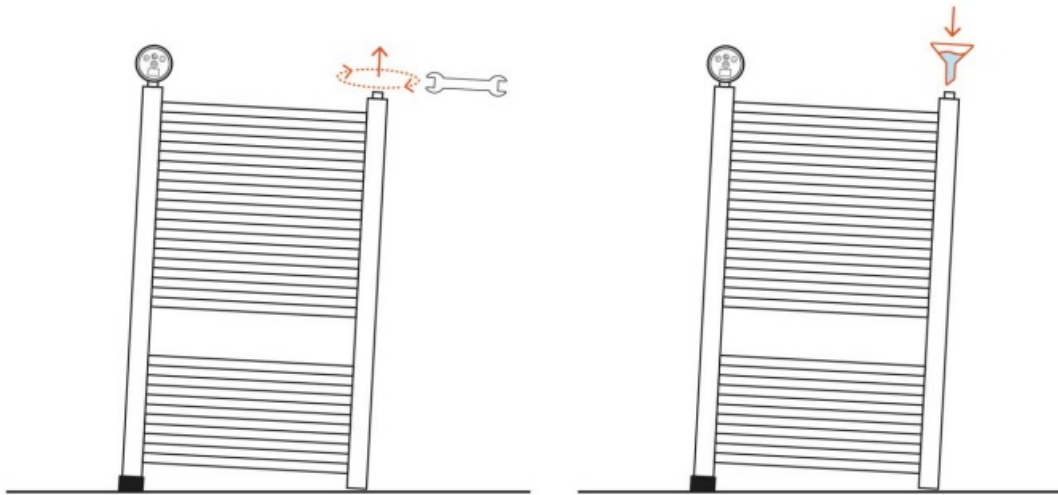
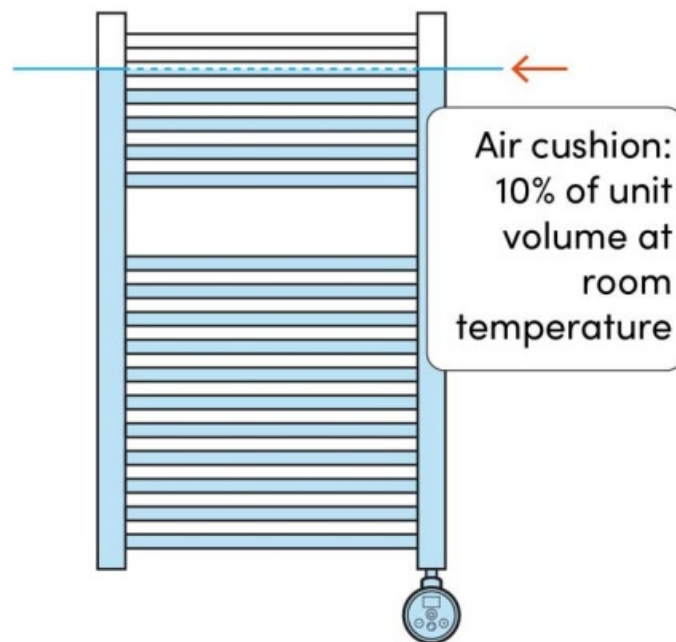

Figure 5 | Removing towel rail cap and using funnel to fill
Figure 6 | Air cushion requirement (image for illustrative purposes only)
9. Remove the cap and fill the towel rail to 90% of its volume with a suitable heating medium (Figure 5, Figure 6). This should be a glycol-based formulation approved by the towel rail manufacturer. Replace cap when done.